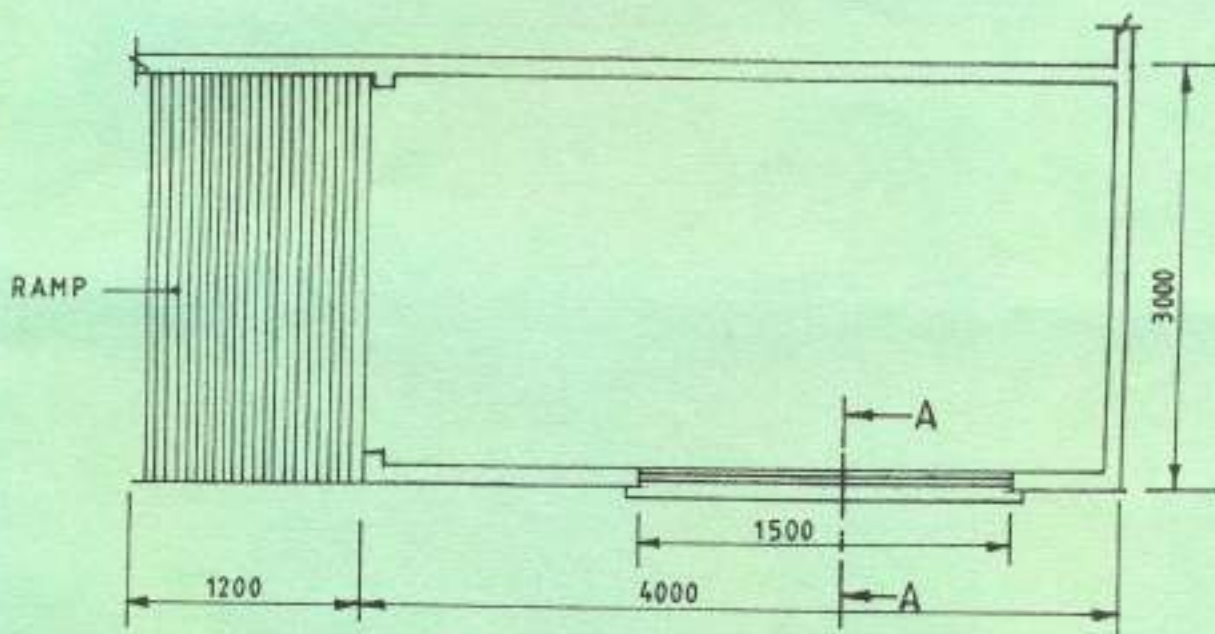

Fig.8
7. Figure 8 shows the plan of a garage attached to the main house. Using a scale of 1:20 draw section "A-A" from the foundation to the eaves given the following data: